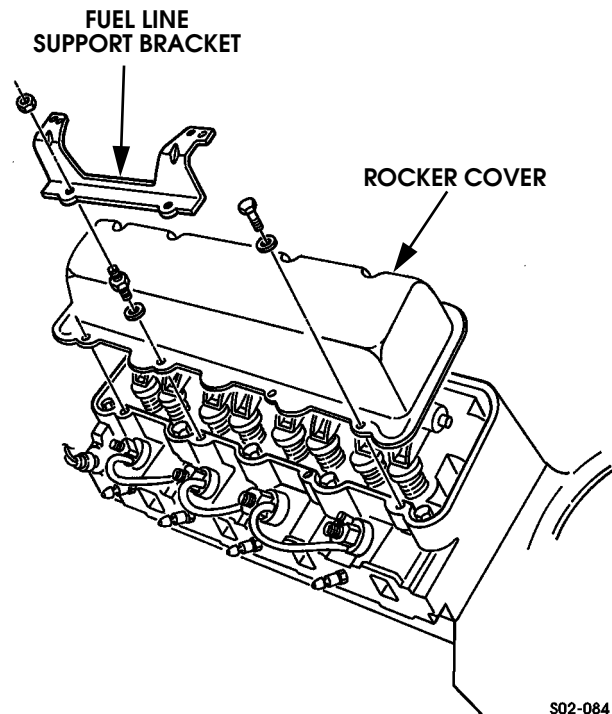

Figure 2-207: Rocker Cover Installation
3. Align and install covers on cylinder heads (Figure 2-207).